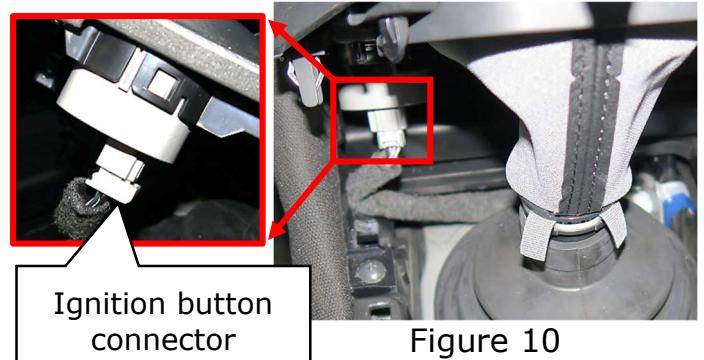

Figure 10
10. Lift the shifter finisher upward and disconnect the ignition button and the sport mode switch (if equipped). (Figure 10)